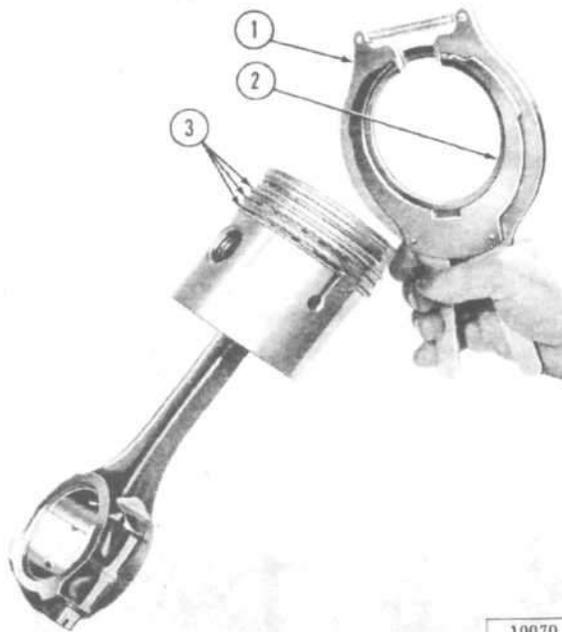

FIG. 43—INSTALLING RINGS ON PISTON
- i. Install new ring set using either production replacement rings or oil control rings. Production replacement rings are the same as the original factory installed rings while oil control ring sets have different components, notably the oil ring expander. Follow instructions on ring envelopes for proper installation. Use a piston ring tool to install rings on pistons as shown in Fig. 43. Do not expand rings more than necessary to install, also be careful not to burr the piston with ends of rings. Make sure upper compression ring is installed in groove with correct side up. Position rings so gaps are staggered according to instructions on the envelope.